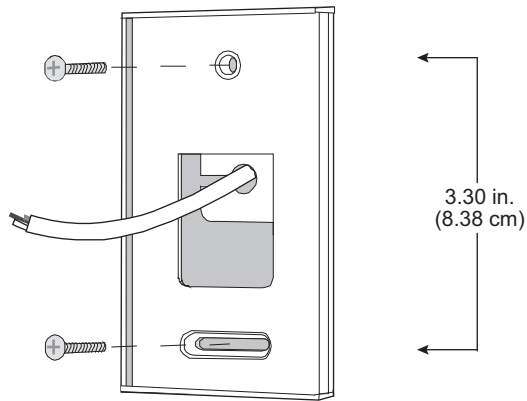

Fig. 20 — Rnet Cable Installation
3. Connect Rnet wiring to the Rnet port of the controller. See Fig. 20 for wiring instructions.